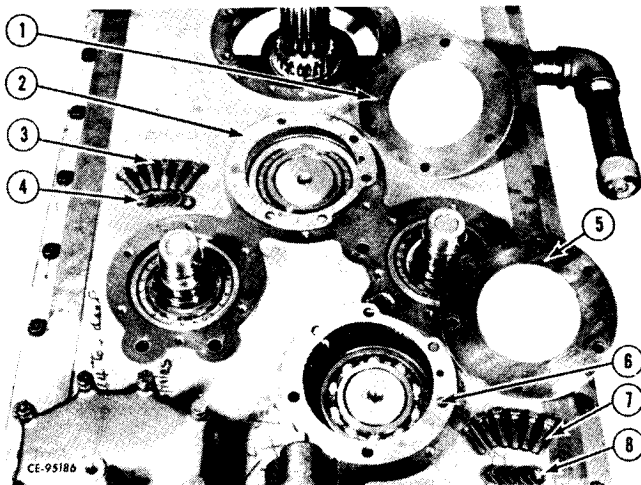

Figure 4-21
Remove lower counter shaft cover cap screws (3, Fig. 4-21), washers (4), cover (1) and gasket (2).